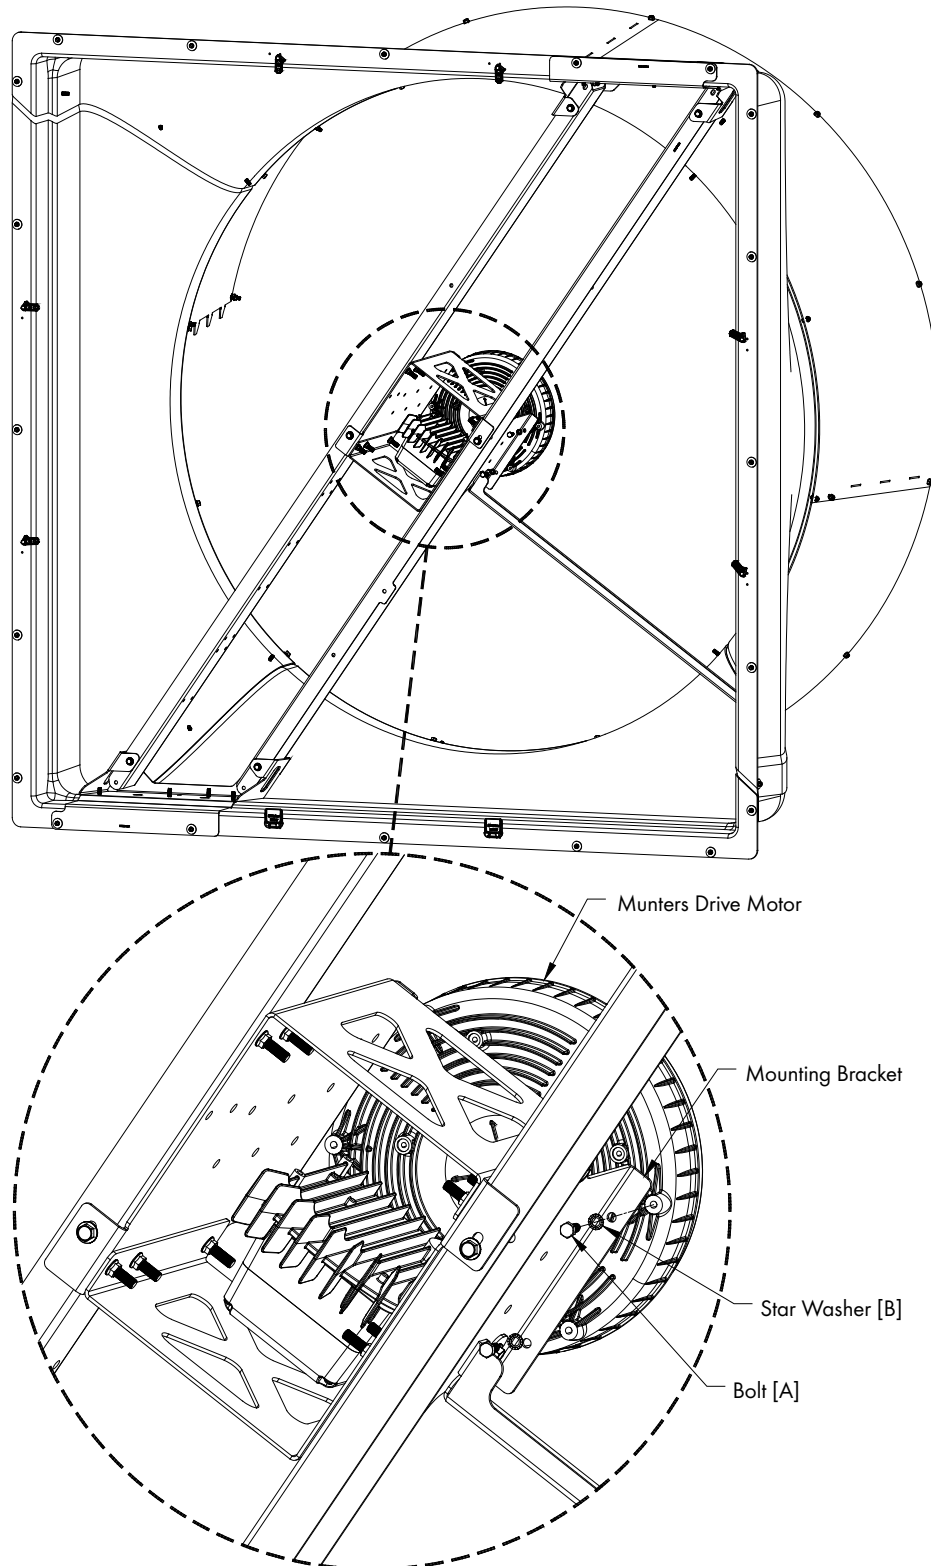

Figure 8
Carefully lift Motor/Drive into place and secure in place using (4) Bolts [A] and Star Washers [B]. Tighten Bolts to 60 in-lbs. [6.8 Nm] of torque. See Figure 8.